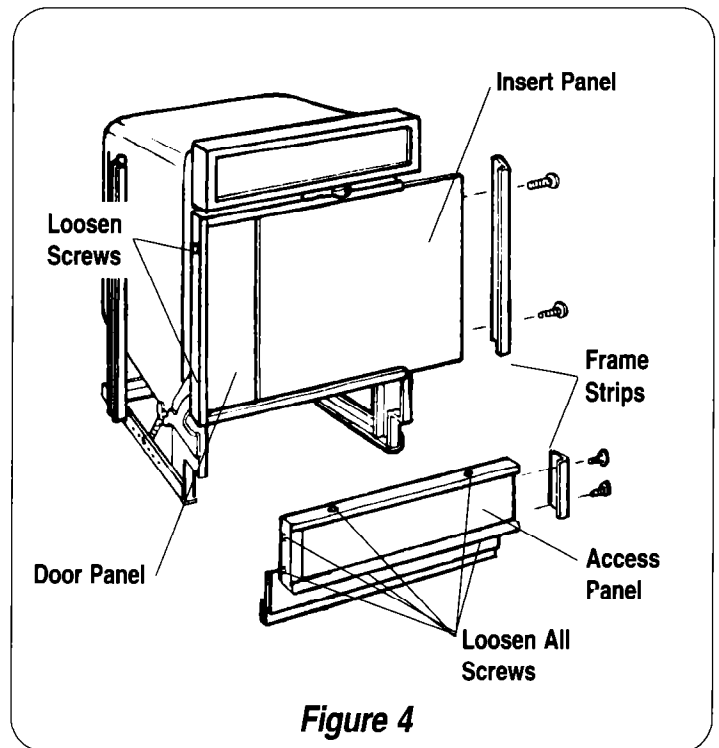

Figure 4
1. Remove frame strip from one side of the door panel. Loosen, but do not remove screws from frame strips on remaining sides (see Figure 4).
2. Remove frame strip from one side of the access panel. Loosen, but do not remove screws from frame strips on remaining sides (see Figure 4).